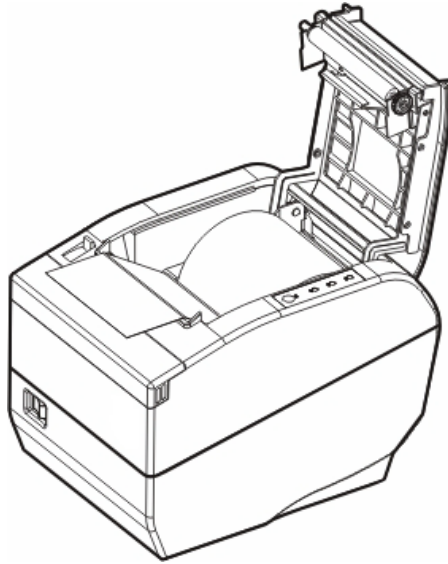

Figure 4-3 Pull out the paper
3. Pull out a small amount of paper as shown in Figure 4-3.